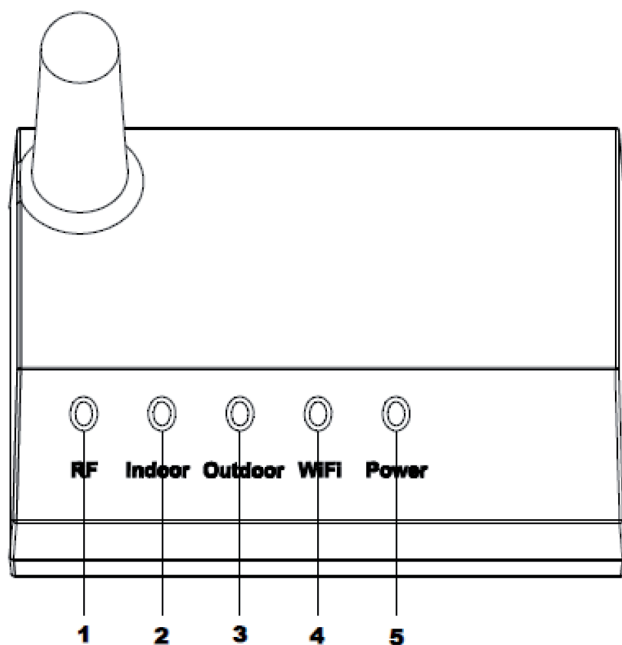

Figure 13
- Connect the receiver power jack to AC power with the power adapter (included), the Power LED (Figure 13) will be illuminated.
- The WIFI LED (Figure 13) will flash rapidly indicating that WIFI has not been connected to any router before.
- Once synchronized, the Indoor blue LED (Figure 13) and Outdoor blue LED (Figure 13) will be illuminated. The LED flash slowly indicating that there is no data updated to receiver,you should re-set the receiver or sensors
- The RF LED (Figure 13) will be flashed several times indicating that the RF signal is received,if no flashed mean that no RF signal,you should re-set or re-power the receiver or sensor.